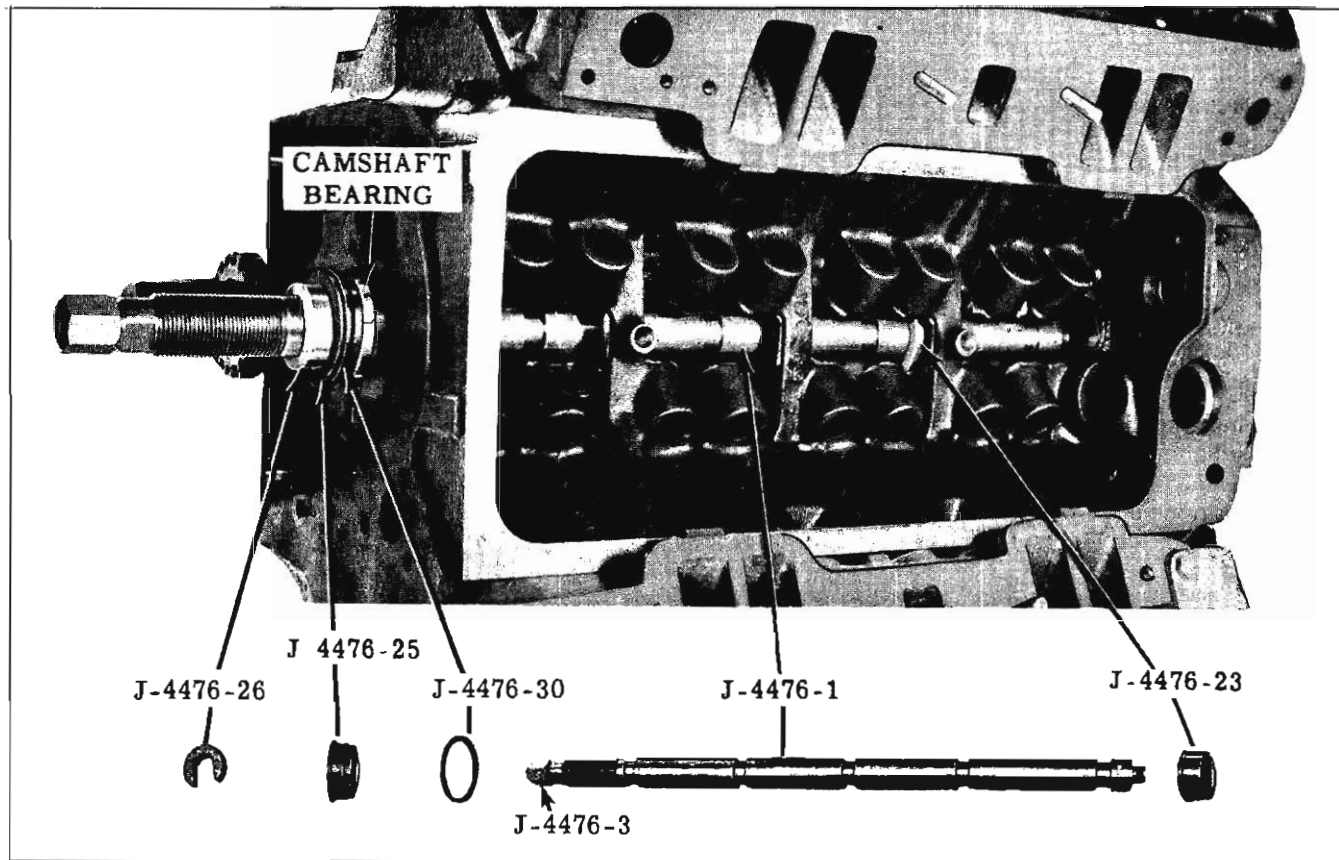

Fig. 3-44 Installing No. 1 Camshaft Bearing
- a. Assemble tools as shown in Fig. 3-44.